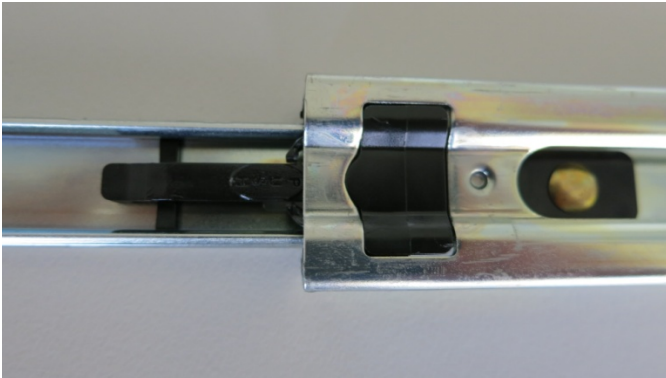

Figure 85 – Separate Rack Slides
3. Attach the inner slide rails to each side of the instrument using M4 x 10 button screws; three on each side (refer to Figure 85).